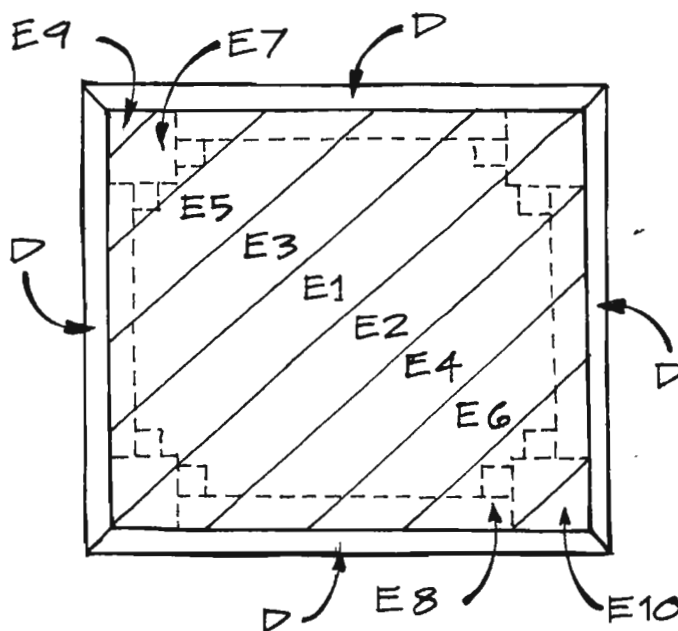

Figure 3
*Figure 3* shows the placement of each of the slats. The slats are numbered in the diagram to indicate the order in which they are attached.